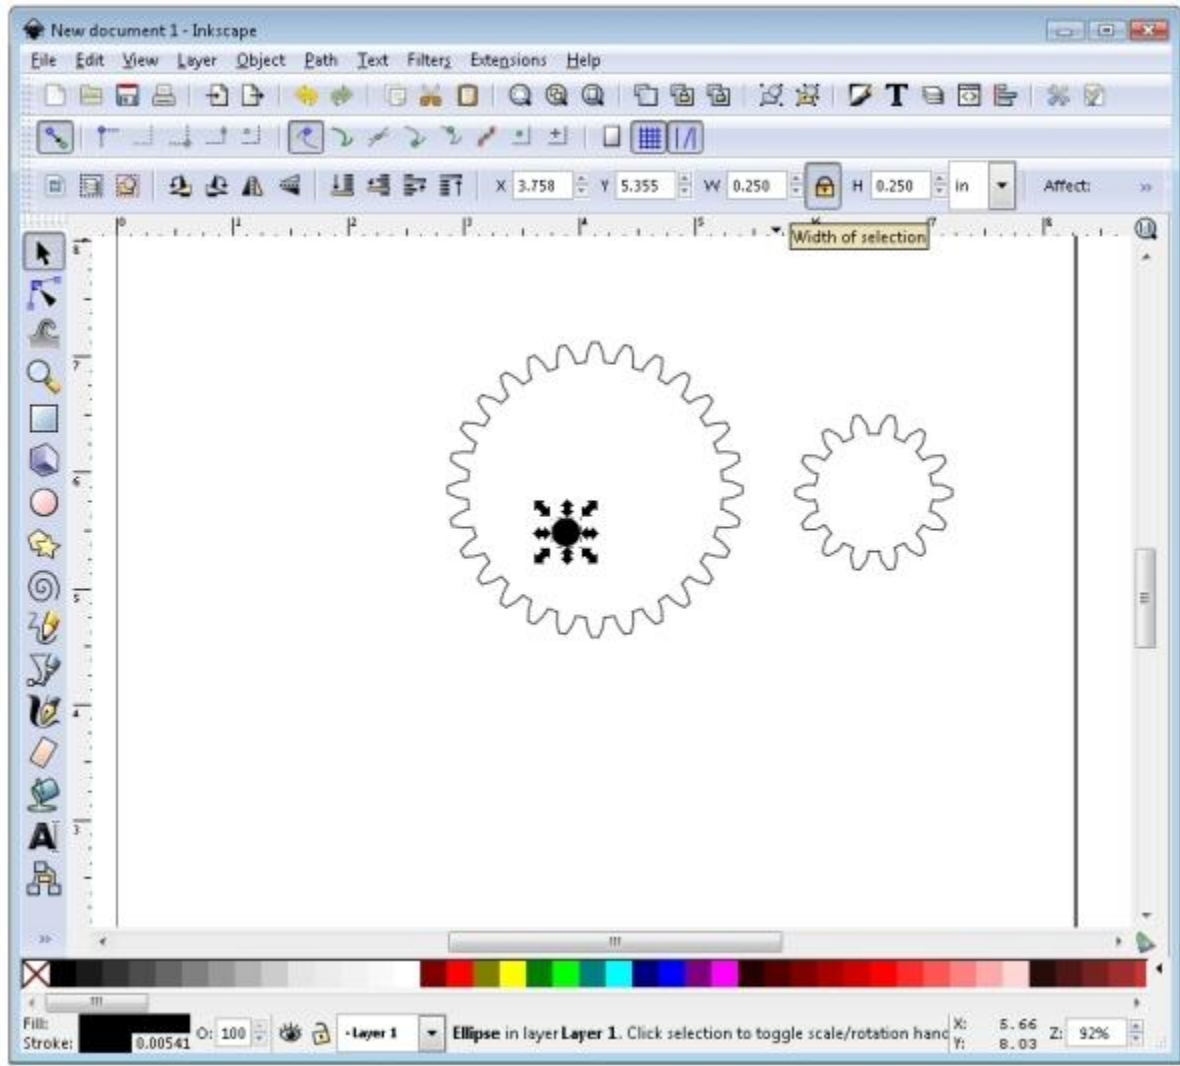

Figure 4
6. Use the circle tool and hold down the CTRL button (on a PC) to draw a circle inside the big gear. The default circle shows up filled in with black. Zoom in if you need to. Make sure the arrow selector is active and click on the circle. Make sure inches is selected in the toolbar and the lock button looks locked. Type 0.250 in the W box in the toolbar, press enter, and watch the H box change automatically. Your circle will resize to 0.250 inches in diameter and your screen should look like Figure 4.